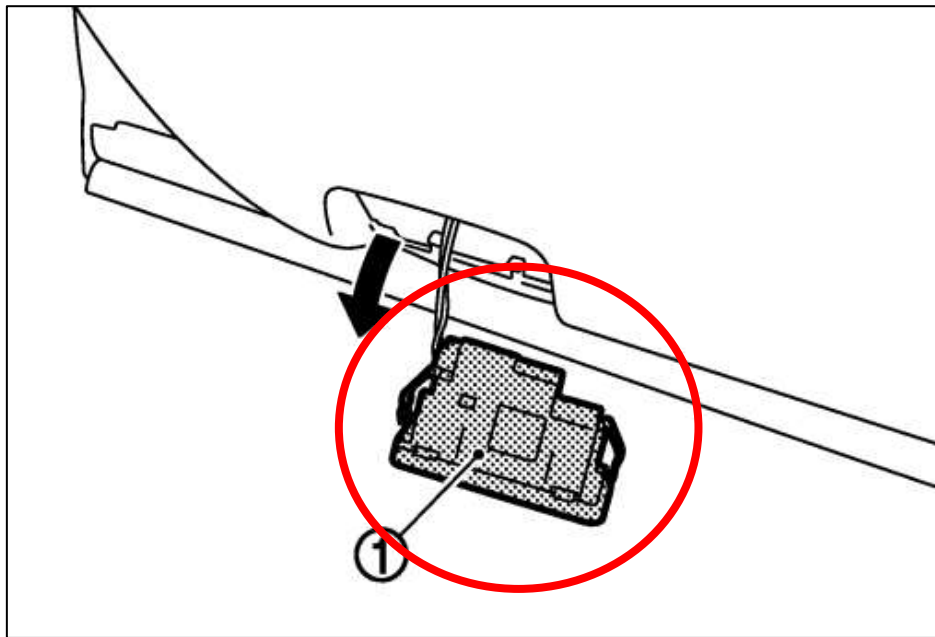

Figure 68
6. Disconnect the Step Lamp on the bottom of the Door Panel. *Figure 68.*